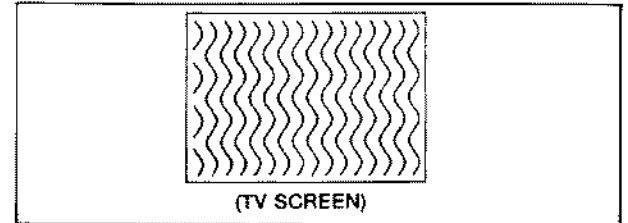

Fig. E11
- Adjust VR22301 (N—ADJ) on the Servo C.B.A. so that the beat on TV screen is minimized as shown in Fig. E11.
- Adjust VR22302 (R—ADJ) on the Servo C.B.A. so that the beat on TV screen is minimized as shown in Fig. E11.